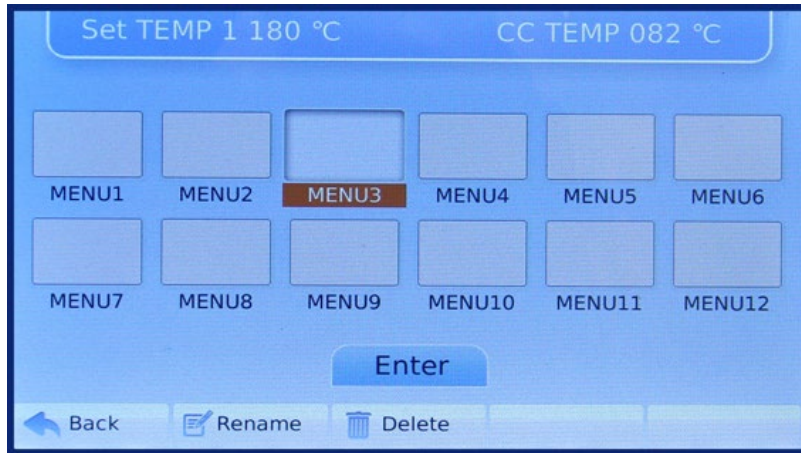
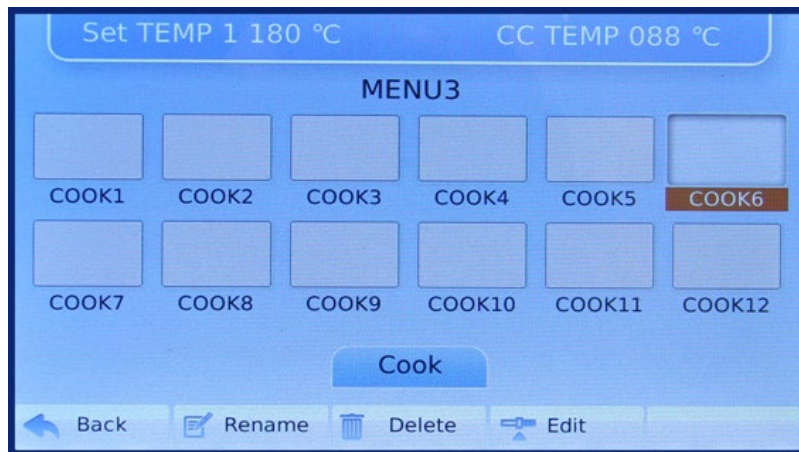
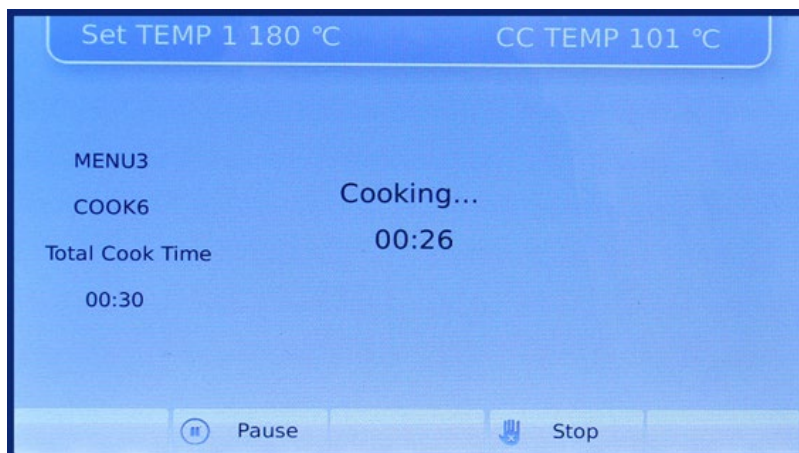

Figure 2
Figure 3
Figure 10
4.3.2 Access recipes: In Figure 2, for example, select “menu3”, touch “Enter”, recipes screen shown in Fig 3.
4.3.3 Cooking: In Fig 3, for example, select recipe6, touch “Cook” key to cook, shown in Fig 10.